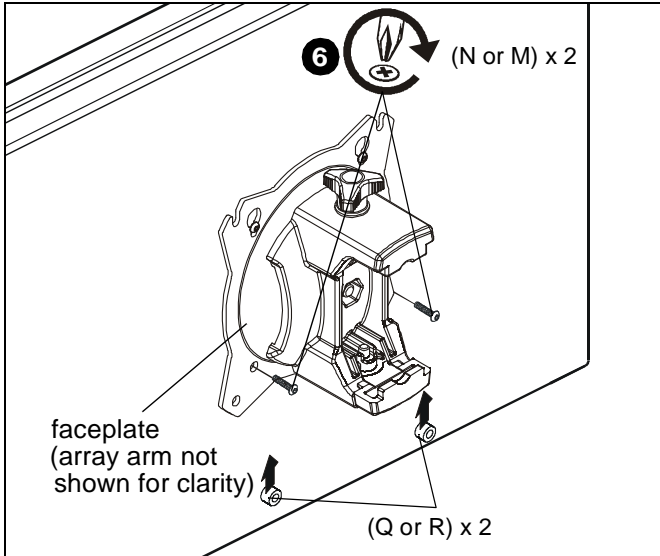

Figure 16
5. Slide two remaining selected spacers (Q or R) in between faceplate and display, positioning them over the *lower* two mounting holes. (See Figure 16)
6. Install two remaining selected screws (N or M) through *lower* two mounting holes on faceplate, selected spacers (Q or R) into the *lower* mounting holes on the display. (See Figure 16)